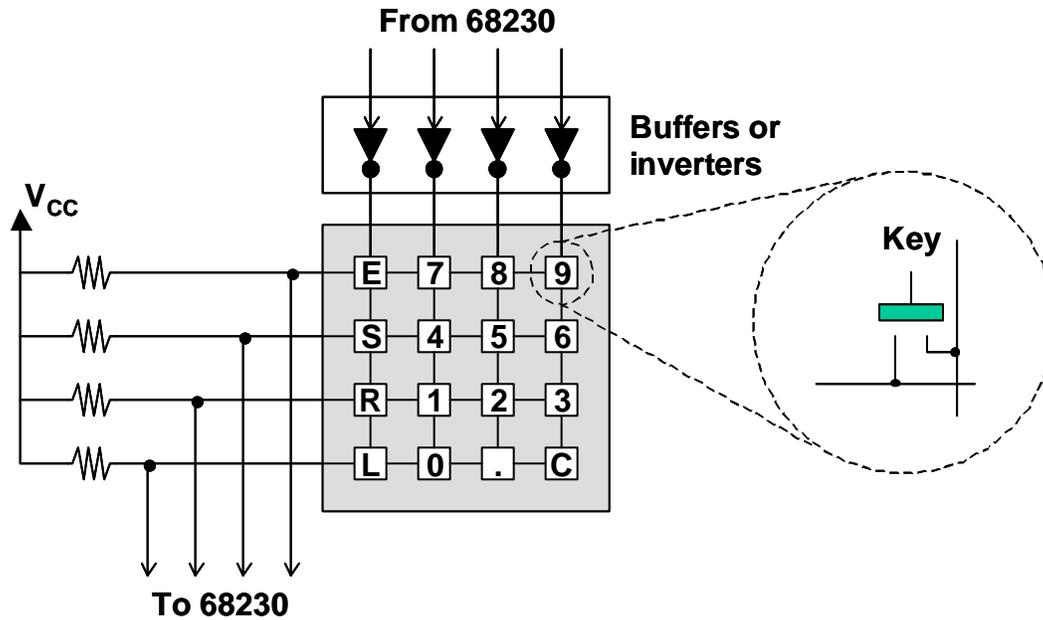

Figure 1. The 16-key keypad. Resistor values are not critical –any value between $1K\Omega$ and $5K\Omega$ will work
2. Construct a microcomputer system based on the SBC68K Educational Computer Board (ECB). The system uses a 16-key matrix-type keypad (see Figure 1) for input and two output devices, a personal computer (PC) monitor and a seven-segment LED. The 16-key keypad should be controlled and read through the eight-bit-I/O Port A, of the 68230 PI/T on the ECB. The seven-segment LED should be controlled through Port B of the PI/T. The PC should be connected to the serial port of the ECB through an RS232 link.